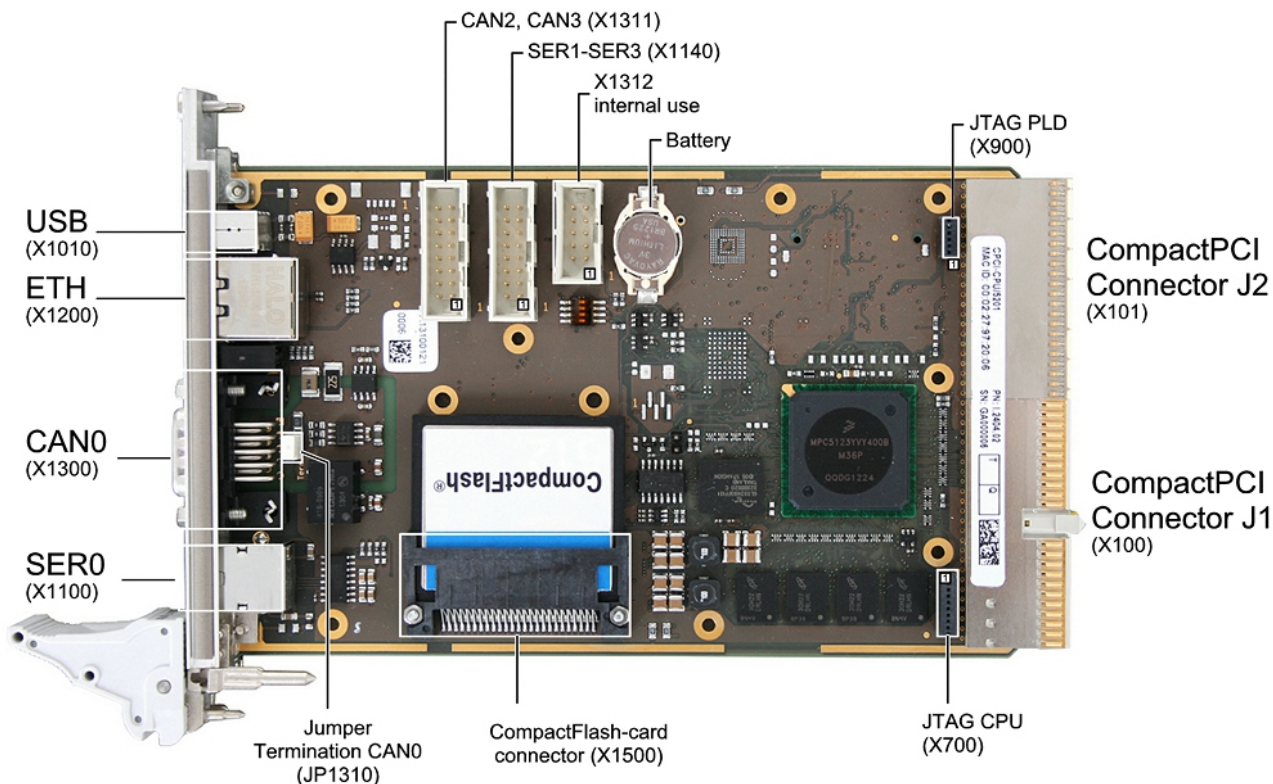

Figure 2: PCB top view of CPCI-CPU/5201
An internal CAN termination for CAN0 can be set via the jumper JP1310 (see figure 2).
2. Remove the old battery carefully out of the holder (see figure 2).
3. Carefully insert the new battery into the battery holder with the positive pole (+) facing up, see figure 2.